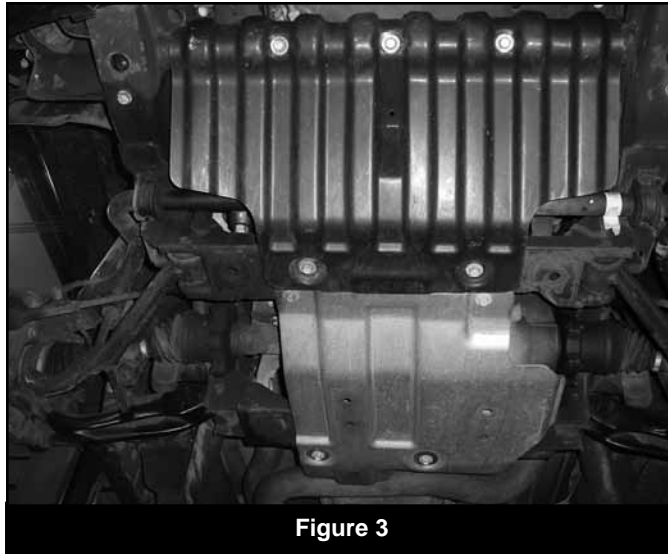

Figure 3
11. Remove the front plastic splash guard, save splash guard bolts. If equipped, remove the four bolts mounting the factory belly pan to the frame (Fig 3) These will not be reused.